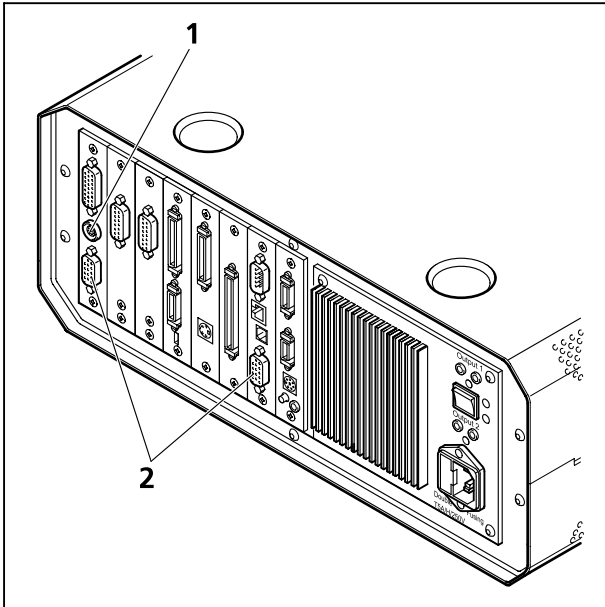
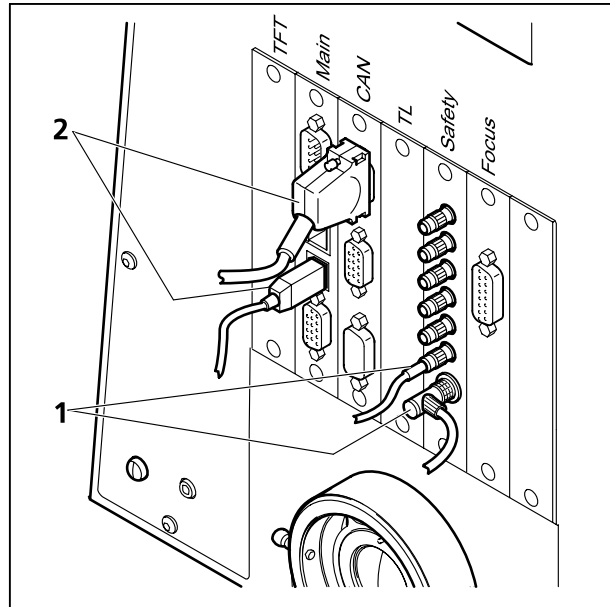
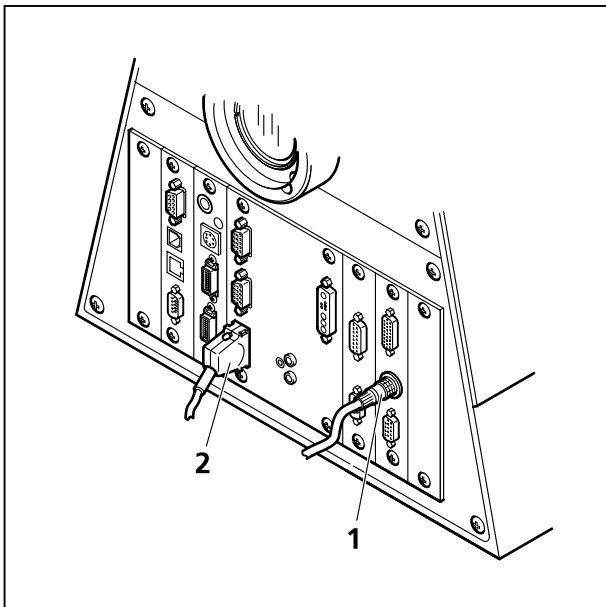

Fig. 1-26 Electronics Box of Axio Examiner with main connection to safety interface (1) and CAN-connectors (2)
Fig. 1-27 Connection of Axio Imager.Z2 to safety interface (1) and electronics (2)
Fig. 1-28 Connection of Axio Observer.Z1 to safety interface (1) and electronics (2)
1. The connection of the microscope to the safety interface of the system is located either on the additional Safety Box (Axio Examiner, Fig. 1-26/1) or on the rear side of the microscope (Axio Imager.Z2 or Axio Observer.Z1; Fig. 1-27/1 and Fig. 1-28/1). This connection has to be unplugged from the microscope which is not in use and plugged into the microscope to be used following the exchange of the scan head.
2. The CAN connections on the microscopes are shown in Fig. 1-26/2, Fig. 1-27/2 and Fig. 1-28/2. Remove the connection of the microscope no longer in use at the electronics rack and plug in the connection of the microscope which should be used instead.